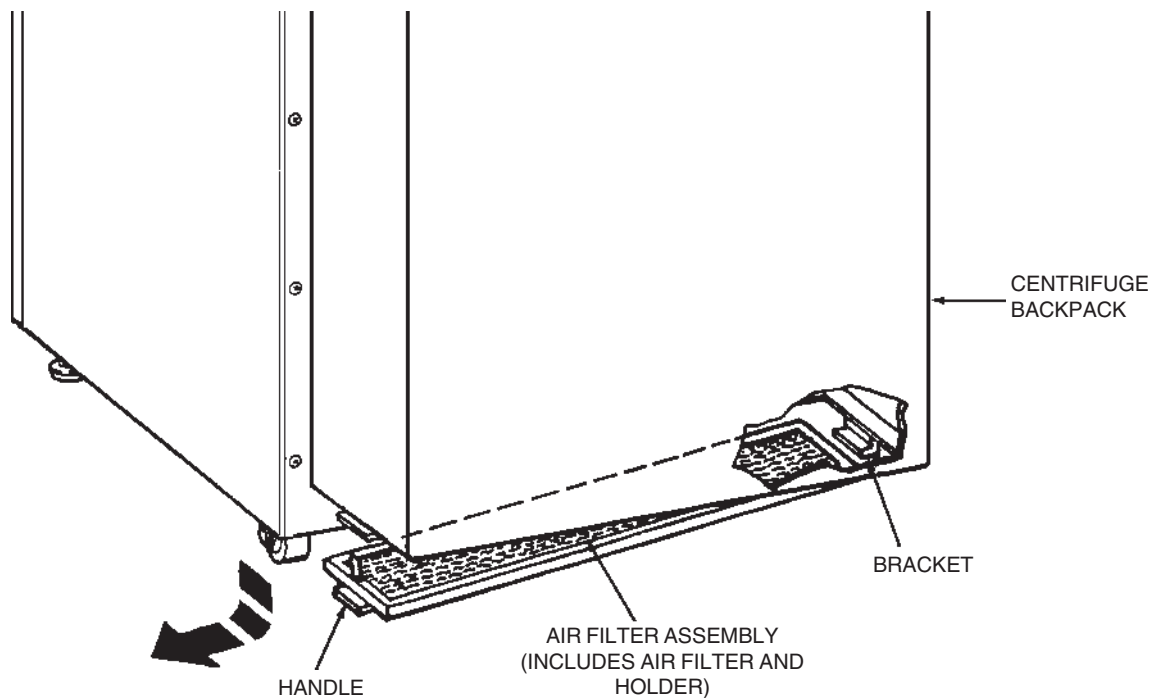

Figure 5-2. Air Filter Assembly Removal
3. From the left side of centrifuge, grasp the handle on the air filter assembly and pull downward (see figure 5-2). Remove the air filter assembly.